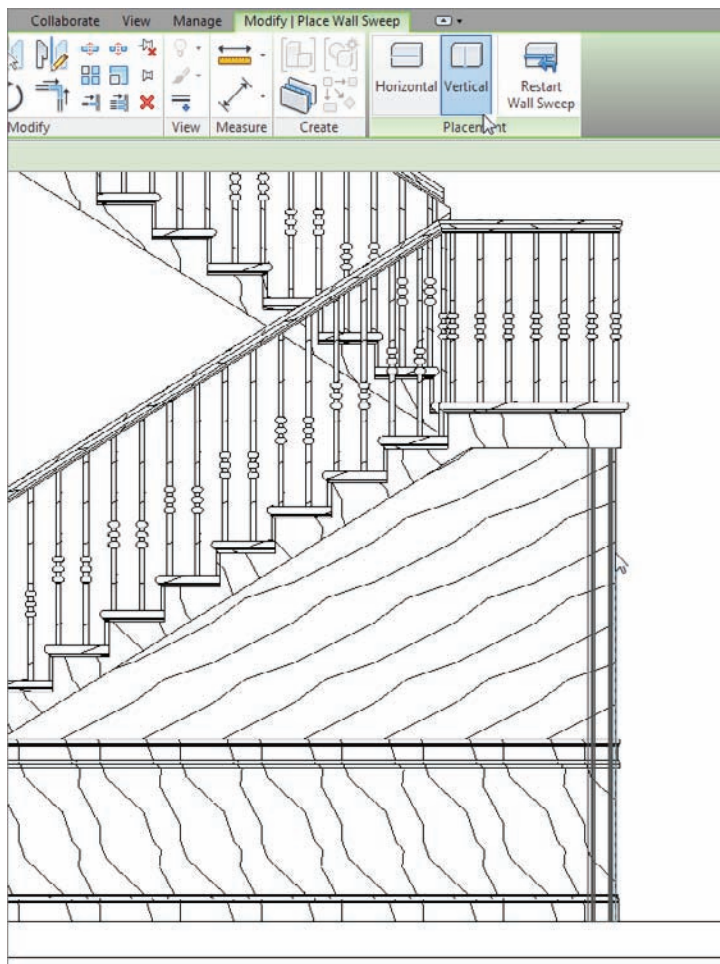

FIGURE 16.17 Adding the profile to the wall
9. On the Modify | Place Wall Sweep tab, click Vertical on the Placement panel (see Figure 16.17).